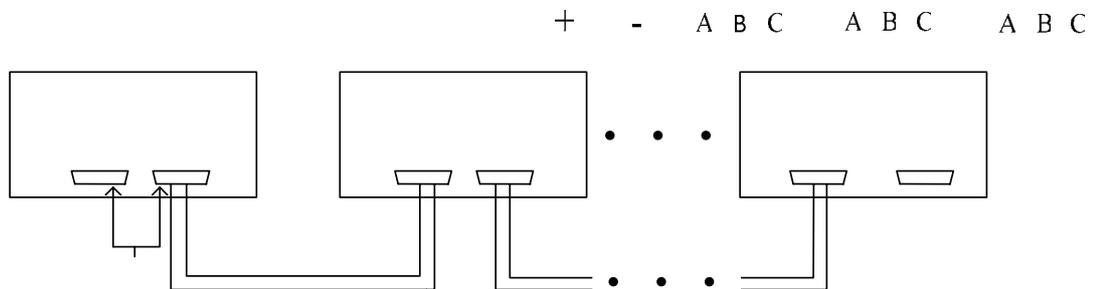

Figure 4.2 Communication Connection Chart of Paralleled Machines
2. As shown in figure 4.2, connect the paralleled ports of communication ports for UPS ready for parallel with parallel wire, and it can parallel 6 machines at most.